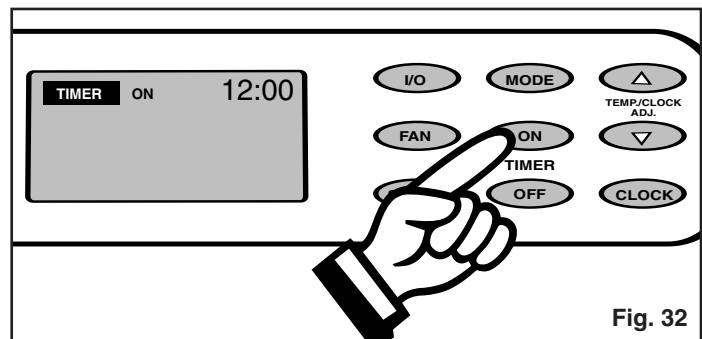

Fig. 32
- 7) Press the **TIMER-ON** key pad to initiate the **AUTO-ON** time sequence. *Fig. 32.* The display window will indicate **TIMER-ON** and the word **ON** will flash for 5 seconds. Press the  $\Delta$  or  $\nabla$  key to select the desired **AUTO-ON** start time.
- 1) Press the **TIMER-ON** key pad to initiate the **AUTO-ON** time sequence. (Fig. 32). The display window will indicate **TIMER-ON** and the word **ON** will flash for 5 seconds. Press the **△** or **▽** key pad to select the desired **AUTO-ON** start time. (Fig. 32a).